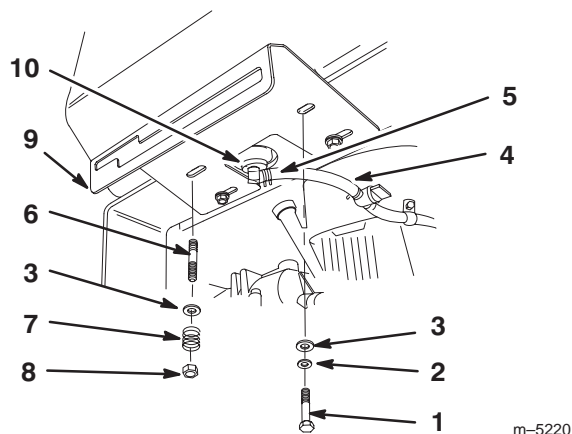

Figure 3
- Secure the right side control panel and fuel tank to the rear frame (Fig. 3) with 2 bolts (5/16 x 7/8 in.), lock washers (5/16 in.) and washers (5/16 in.) (Fig. 3).
- Secure the left side control panel and fuel tank to the rear frame (Fig. 3) with 2 studs, washers (5/16 in.), springs and locknuts (5/16 in.) (Fig. 3).
- Slide the hose clamp onto the fuel line (Fig. 3).
- Push the fuel line onto the fuel tank connection and secure it with a hose clamp (Fig. 3).